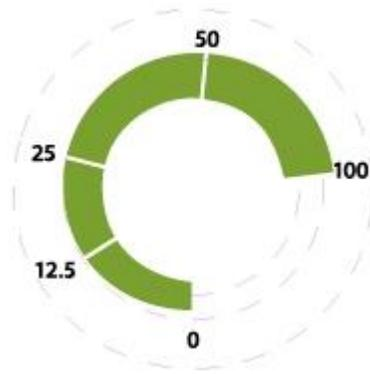

Figure 8 Iris Adjustment Dial Layout
- 6.6.2 There are no detent stops, motion is smooth starting from 0% and ending at 100%. 0, 12.5, 25, 50, 100% are marked on the fascia around the dial for reference (ref. Figure 8)